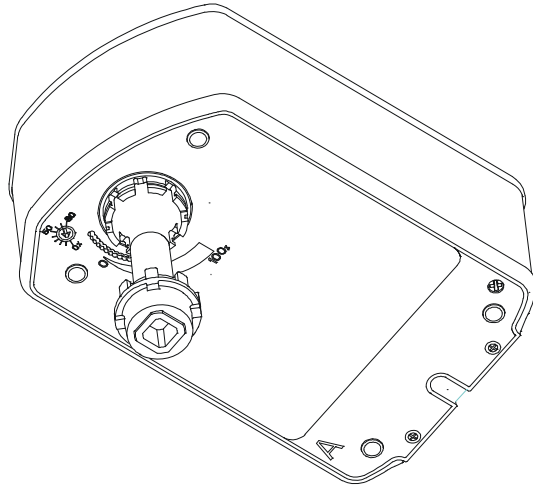

Figure 24: Inserting the Drive Shaft
3. Insert the drive shaft into Side A (Figure 24).